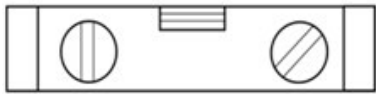

Figure 2
4. The position of the corner should be adhered as shown in Figure 2.